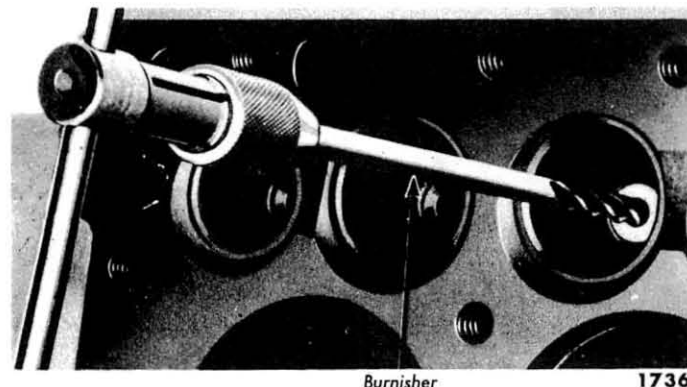

Fig. 8—Burnishing Valve Guide
(2) **INSPECTION.** Check the valves for burned or warped heads. Measure the stem diameter and replace the valve if the diameter is less than 0.341 inch. Measure the valve guide inside diameter to determine valve to guide clearance. Figure 7 illustrates the method of measuring the valve guide with the telescope gauge and micrometer. Replace the guide if the clearance is greater than the tolerance shown in Table 2 for each engine. Tight guides can be relieved by burnishing (fig. 8). Replace the guide if either end is bellmouthed. Replace warped, burned, pitted, or worn valves.